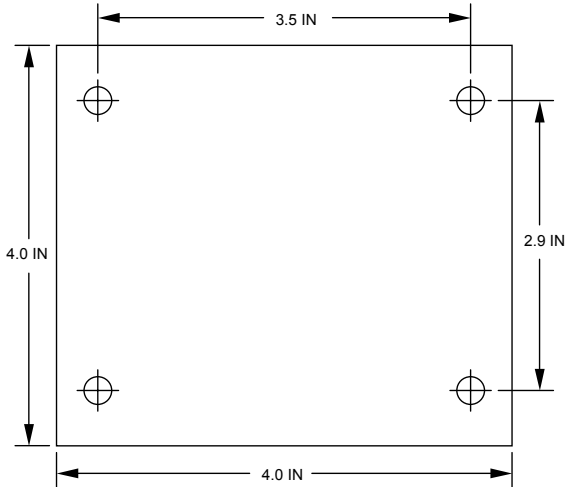

Figure 2: Standoff Hole Placement
- Using the dimensions provided in Figure 2, drill four 0.150" diameter holes at the specified locations on the panel. As a convenient pattern guide, the unit with attached mounting standoffs can be held against the panel, and the four standoff locations marked with a pencil or scribe.